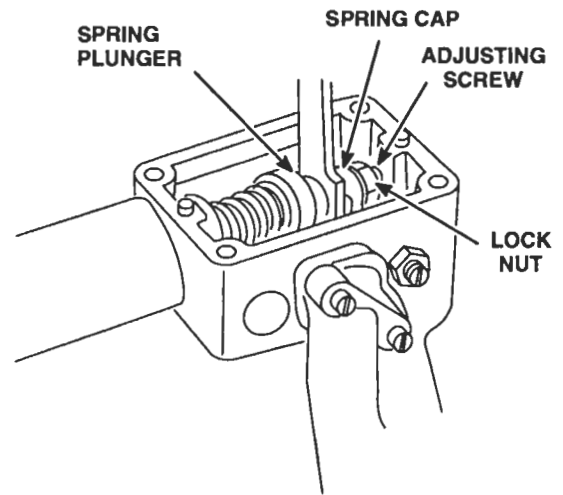

Figure 3. Adjusting Governor Gap (Single-Weight Governor)
8. Check the gap (.170 inch) between the low-speed spring cap and the high-speed spring plunger with gage J 5407 (Figure 3.) A .170 inch stack-up of feeler gages can be used to check the gap if the gage is not available. Be sure the external starting aid screw is backed out far enough to make it ineffective when making this adjustment.